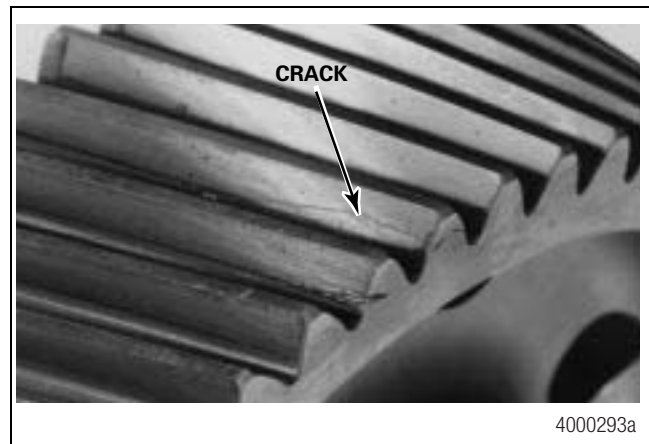

Figure 5.6
- A crack in the root of a tooth or along the tooth flank. Figure 5.6.